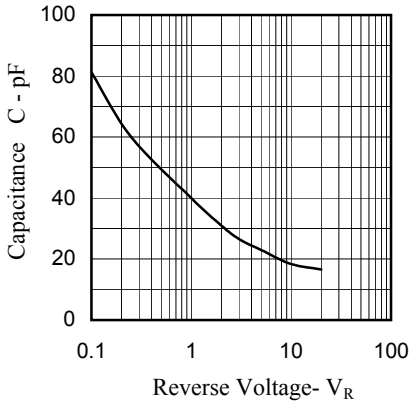

FIG.1 CAPACITANCE VS. REVERSE VOLTAGE
(1).The Fig. 1 temperature profile shall be at the surface of LED resin.